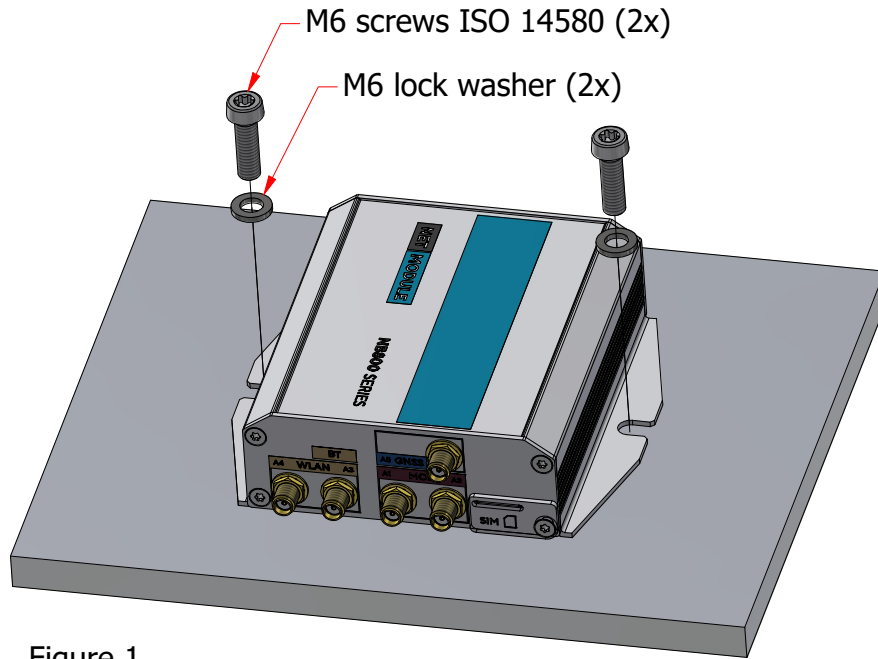

Figure 1
- 3.1 Place the screw and lock washer over the mounting hole (Figure 1)